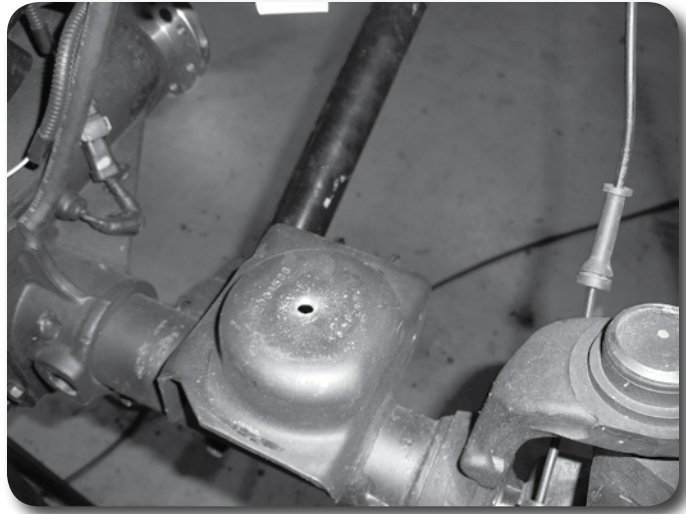

Figure 7
20. Locate and mark the center of the axle coil mount. Drill a 5/16" hole at the mark. Using the provided 3/8" self-tapping bolt, cut threads in the 5/16" holes in each coil mount. Remove the bolt and reuse the other side. **Figure 7**